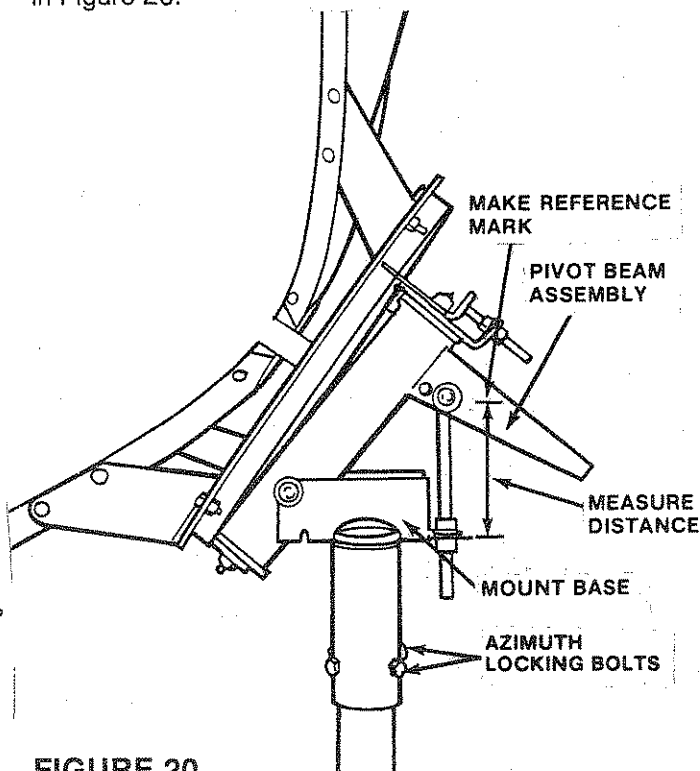

FIGURE 20
STEP 2. Loosen azimuth locking bolts (Figure 20) enough to allow antenna to rotate. Rotate antenna and mount slowly so Pivot Beam passes thru a line with true North. Receiver should be in SCAN mode. When picture flashes on TV screen, remove receiver from scan mode and rotate antenna for best picture.
If when you move the antenna between the Eastern and Western satellites it is necessary to make a fine adjustment in the Polar Axis Angle, the pivot beam is not perfectly aligned with true North. To correct this situation, aim the antenna at the most Western satellite, tune the receiver to a channel that is easily identified and adjust the actuator and the adjustment on the polar axis angle for the best picture. Make a reference mark on the pivot beam assembly above the polar axis adjustment and measure the distance between the mark and the mount base as shown in Figure 20.